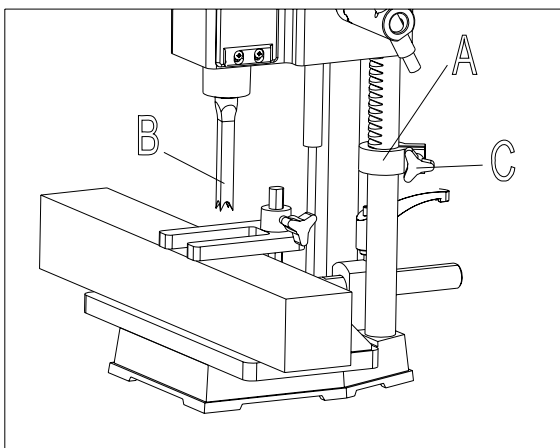

Fig 11
A depth stop guide (A) Fig. 11, is provided to limit the depth of the chisel (B). To adjust the depth stop guide (A), loosen screw (C) and lower head until the chisel (B) is at the desired depth. Lower depth stop guide (A) until it is at the desired depth, tighten screw (C).